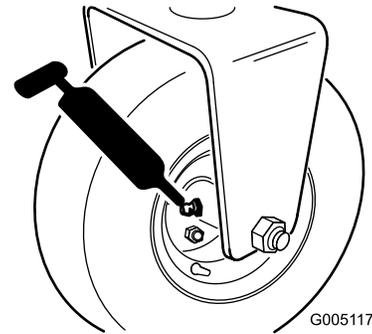

Figure 27
- Rear-roller-hub assembly or, if equipped with a 3-wheel-drive kit, rear-wheel-roller clutches and external ball bearing (1) (Figure 27)